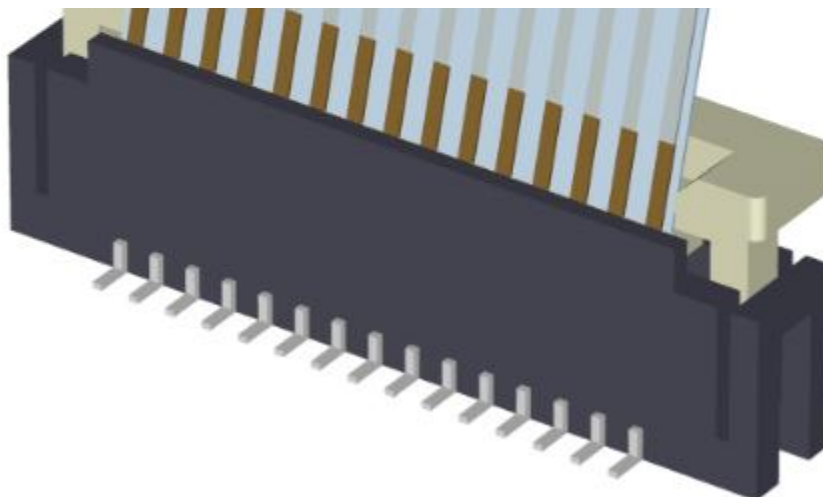

Figure 4. Installing a camera module to the CSI connector
2. Insert the camera ribbon cable. Ensure that the connectors at the bottom of the ribbon cable are facing the contacts in the connector. See Figure 4.